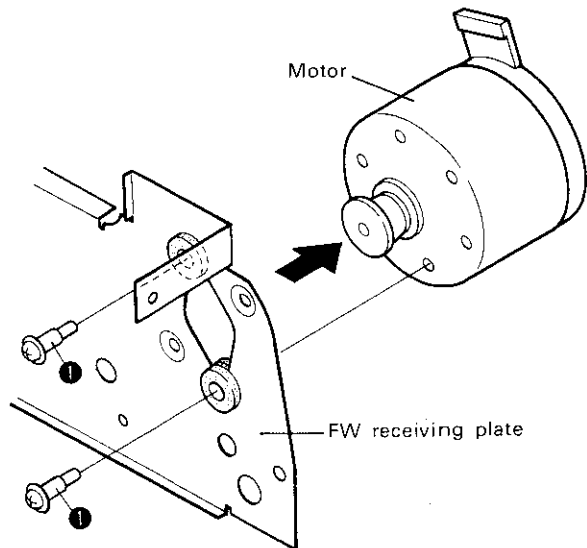

Fig. 13-6 Removal of motor
4. Remove 2 screws ❶ and remove the motor. (See Fig 13-6)
Note 2: Perform the tape speed adjustment (See Fig 13-6) when the motor is replaced.